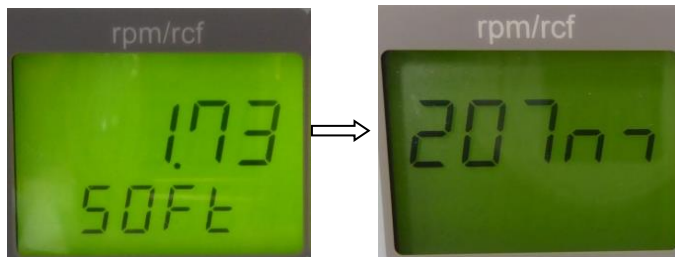
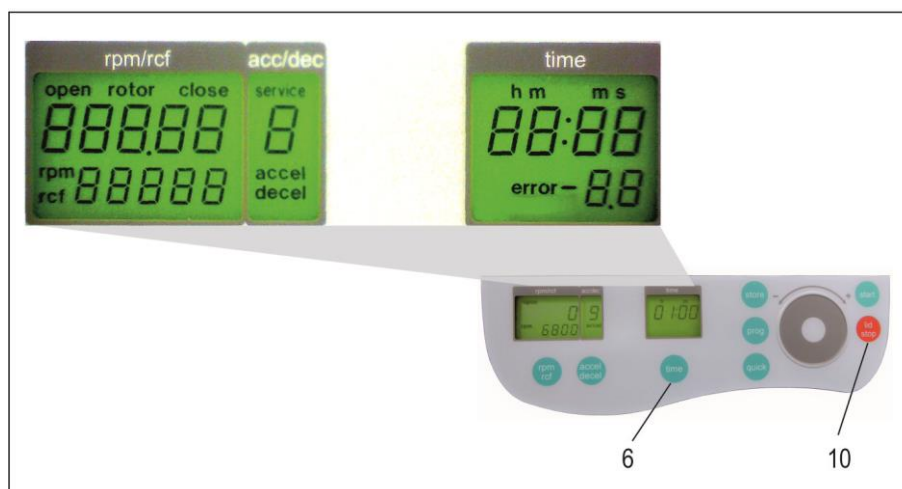

Figure 1
Figure 2
Open the centrifuge lid and shut off the main switch. Now switch on again the main switch. For approximately 3 seconds the software version and the model type will be shown in the display (see Figure 1). Press during this time the keys “time“ (6) and “lid/stop“ (10) simultaneously. As a result, a display test is administered for approx. 3 seconds. All possible indications will appear at the same time (see Figure 2). The LED light is flashing alternately with green and red color.